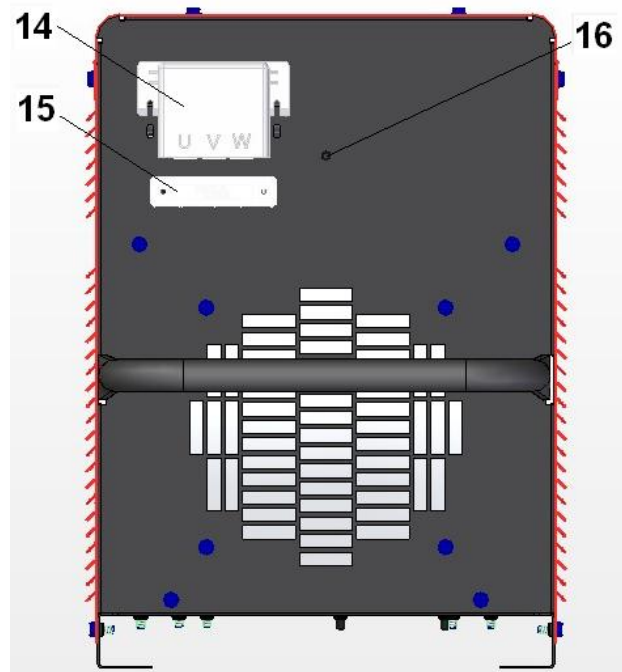

FIGURE B.2
**REAR PANEL (PLEASE SEE FIGURE B.2).**